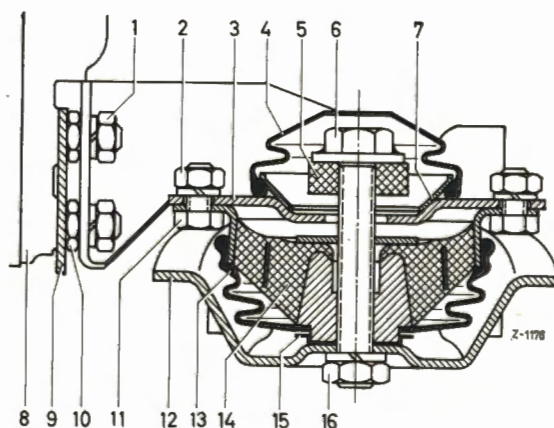

Fig. 26-1/10
20. Fasten the support (12) or the tunnel cover plate to the rubber mounting (14) (Fig. 26-1/10).
21. Screw the support (12) or the tunnel cover plate to the chassis base panel but do not tighten the hexagon screws (18). In this connection note the position marked (20). Now jack the car down and tighten the hexagon screws for fastening the support (see Fig. 26-1/4). On Model 230 SL the 16 screws can be tightened right away.